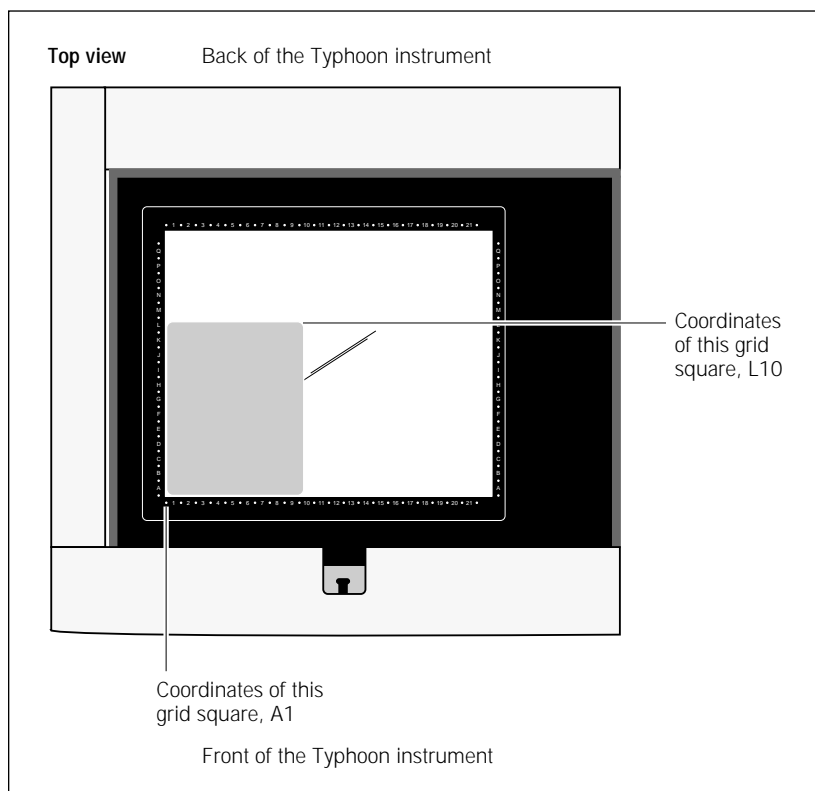

Figure 11-2. Sample placement on the glass platen of the Typhoon instrument.
Use the following guidelines and figure 11-2 to determine where on the glass platen to place the sample:
- Position a rectangular sample so that the shortest edge is along the numbered side of the glass platen as shown in figure 11-2. Because each pass of the scan head moves the entire length of the glass platen (from front to back), placing the longest edge of the sample along the scan head path minimizes the scan time.
4. Make a note of the grid square coordinates of the area you want to scan (figure 11-2). You will use this information later in the Scanner Control window (section 12.2.3).